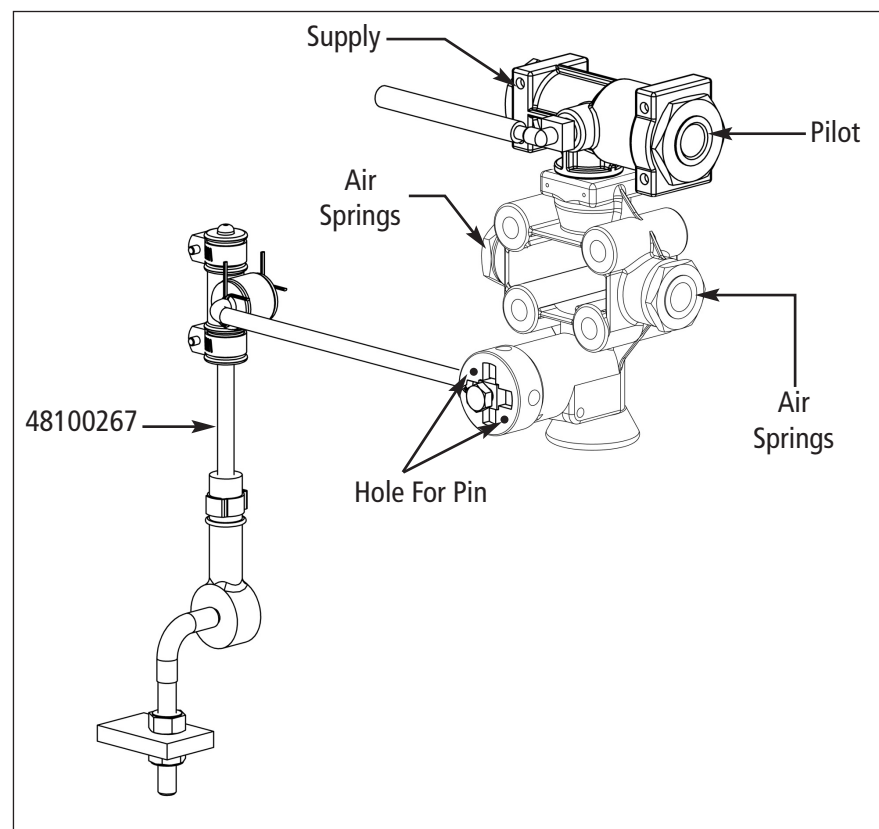

Figure 6. 90555106
3. Align the arrow and hole on the shaft with the slot in the housing. Place a 4mm pin in the hole to temporarily hold this position. (See Figure 6)
4. Install link assembly and adjust for ride height by moving universal connector up or down the link assembly rod. (See Figure 6)